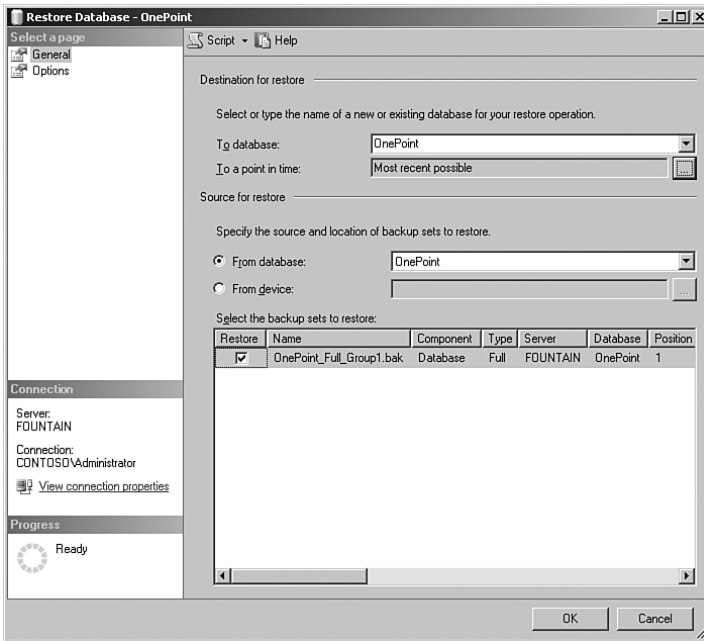

FIGURE 12.19 The restore database screen.
2. Restore the database from the last backup. Right-click on Databases and select Restore Database. In the Source for Restore section, select From Database, and select OnePoint from the drop-down list. This displays the Restore Database screen as shown in Figure 12.19.